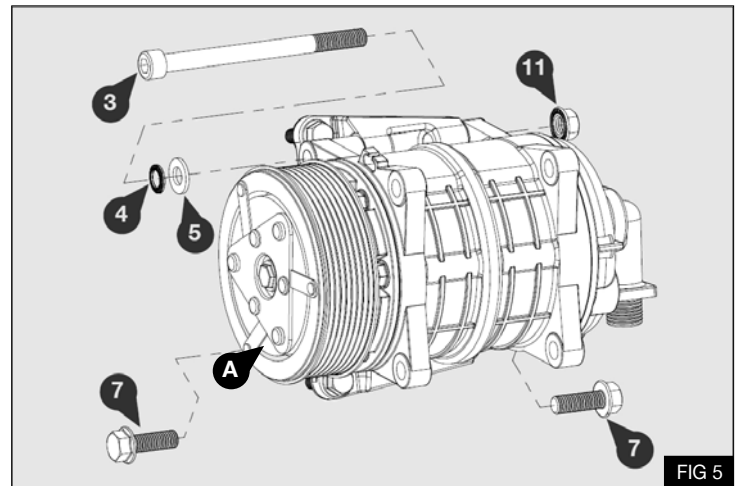

FIG 5
3. Torque M10 x 130 bolt ③ to 63Nm / 46Lb ft - Fig 5
4. Torque M10 x 30 bolts ⑦ to 58Nm / 43Lb ft - Fig 5